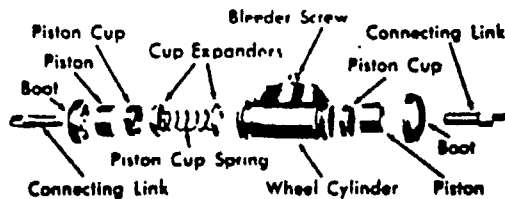

Fig. 42 Wheel Cylinder Disassembled - Cup Expander Type.
4. Remove the bleeder screw from the cylinder. (see fig. 42)
with the fluid. Coat the wheel cylinder cups and inside of the bore with Tru-Torque lubricant or equivalent. (fig. 42)